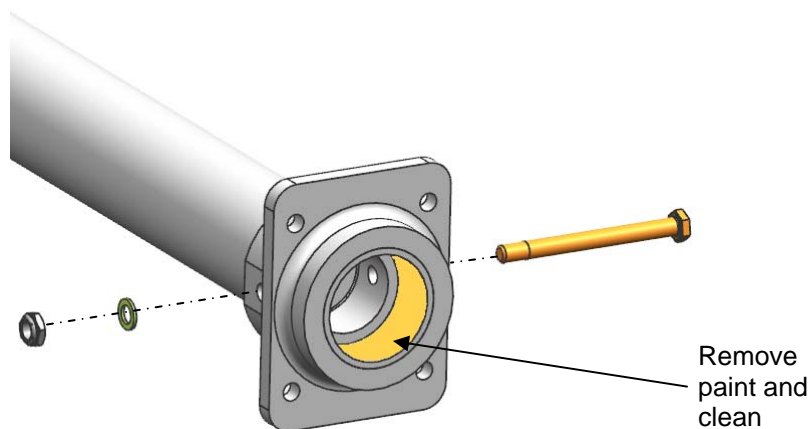

Figure 4-2: Piston Tube Paint Removal
3. Remove the paint (if present) and thoroughly clean the area below the piston plug in the lower piston tube. Refer to **Figure 4-2**.
4. Remove the lower fork bolt, nut, and two (2) washers to allow for the removal of the piston plug. Refer to **Figure 4-2**.